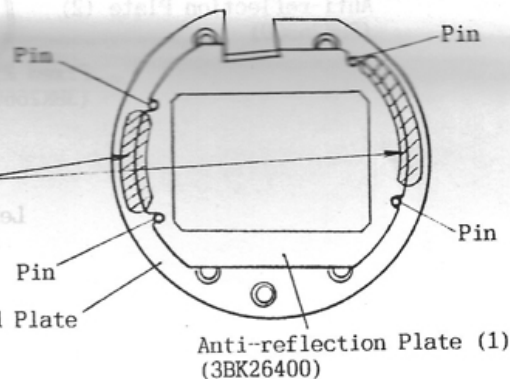

Fig.17
- 9) Apply bond (Cemedine 551) to the Light - shield Plate. (See Fig.17)